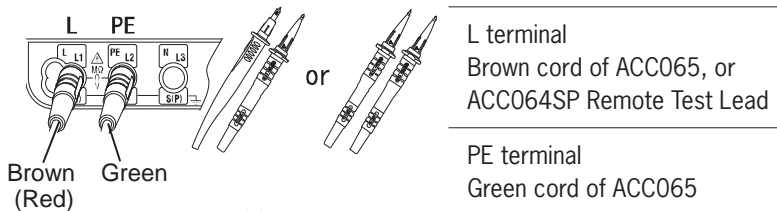

Fig. 20
- 4 Insert the Test Leads to the L and PE terminal on the KT65DL respectively as shown in Fig.20.